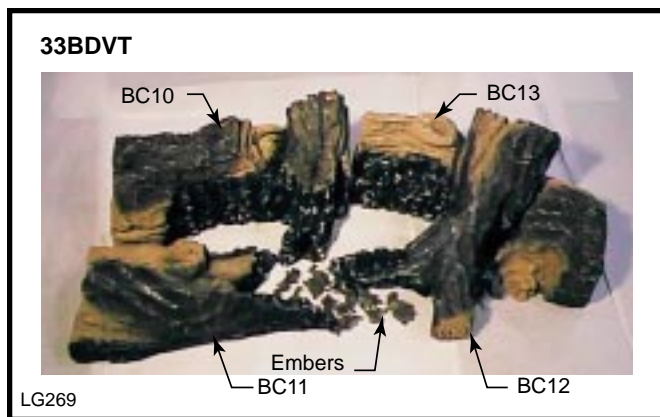

Fig. 38 39BDVT log placement.
Refer to Figure 38.
6. Place the top right log (BC12) on top of the rear and front right log by resting the pre-cut rectangular hole under the end of this log located over the rectangular knob on the rear and front right log. (Fig. 38)
7. Scatter the ember material over the front area of the burner housing assembly. (Fig. 38) Do not pack this material tightly, separate it when unpacked and keep it in a loose condition.